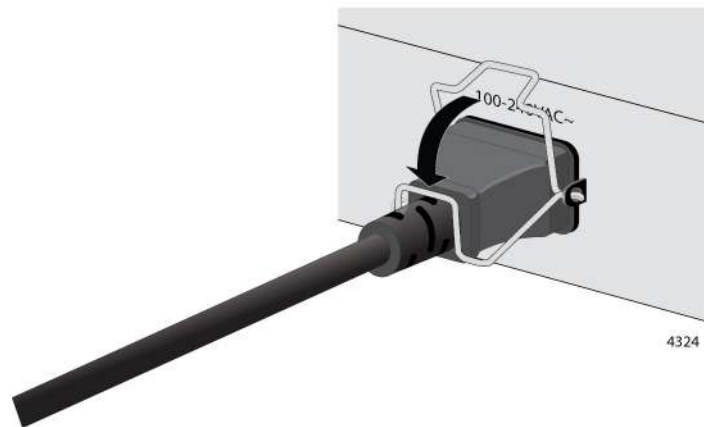

Figure 37. Lowering the Retaining Clip
4. Lower the retaining clip to secure the power cord to the switch. See Figure 37.